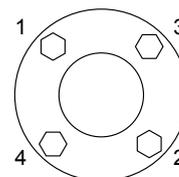

Figure 2 Valve Installation
- First, use the bolts and nuts for providing a temporary joint of the valve flange and the pipe flange. Then gradually tighten pairs of kitty-cornered bolts and nuts with even force to fasten the valve flange and the pipe flange together. (See Bolt/nut tightening order in Figure 2)
The valve with the actuator assembled can be mounted in any orientation ranging from upright to sideways (90° tilted). The valve must be installed with its actuator vertically positioned above the valve body. (See Figure 2.) Outdoors, however, it must always be installed upright.